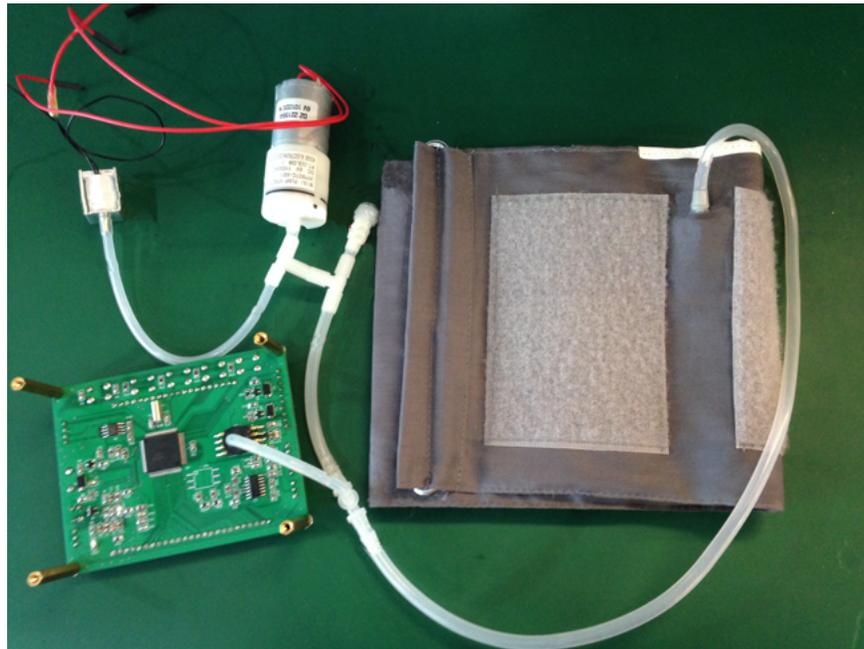

Figure 6. Connection of Cuff, Pump, Valve, and Sensor for Gas Path
1. Connect the gas path as shown in Figure 6 (pressure sensor, pump, valve, and cuff must be connected).
1. Connect the system as shown in Figure 6.